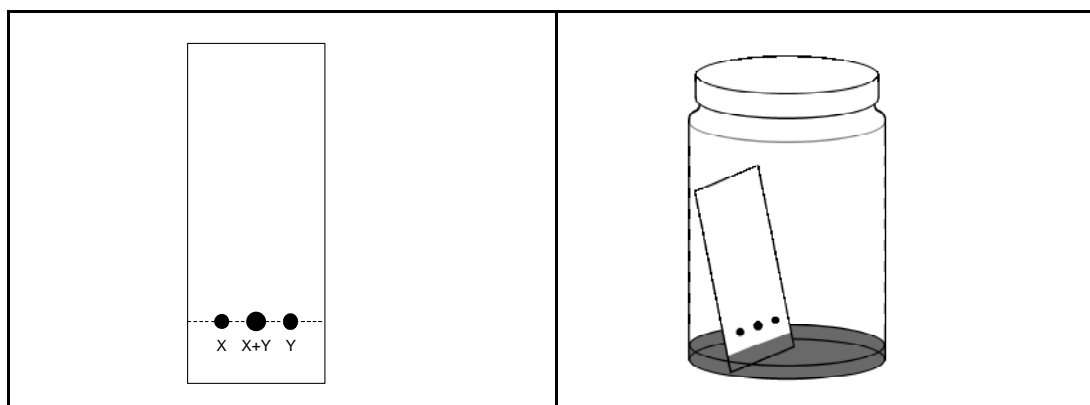

Fig. 1.1 Spots on the TLC plate before development;
- (2) Add 1 g UHP (wear gloves) and stir the mixture. (Caution: this reaction is exothermic.)
- (3) For thin layer chromatography (TLC) analysis, prepare a mixture of ethyl acetate and heptane (1 : 2 in volume) using a measuring glass and place an appropriate amount of the mixture in a TLC developing chamber. Add 1 cm3 of ethyl acetate to the vial (labelled as 1,4-DHP TLC) to dissolve 1,4-DHP (3 mg).
- (4) Check your TLC plates before using. If they are damaged, they can be replaced without penalty. Draw a start line on the lower portion of a TLC plate with a pencil (see Fig. 1.1).
- (5) During the reaction, the reaction mixture becomes clear (usually within 20 min). When the reaction mixture becomes clear (the precipitates may form when it cools, but precipitates will not affect the TLC analysis), take a small portion of the mixture using a glass capillary and load it to make two spots in the centre and right positions on the TLC plate. Load an appropriate amount of the 1,4-DHP solution prepared in procedure (3) in the centre and left positions, so that there are three spots on the plate, with the centre spot containing both the reaction mixture and 1,4-DHP (see Fig. 1.1). Develop the TLC plate in the TLC chamber (see Figs. 1.1 and 1.2). Mark the solvent front with the pencil. Visualize the spots using a UV lamp (254 nm) and draw a line around the UV-active spots on the TLC clearly with the pencil. Assess the completion of the reaction based on the TLC results. Repeat the TLC analysis after ten minutes, if you find significant amounts of 1,4-DHP in the reaction mixture. [Note that you will perform TLC analysis again in procedure (8).] Place the last TLC plate in a zipper storage bag marked "A."